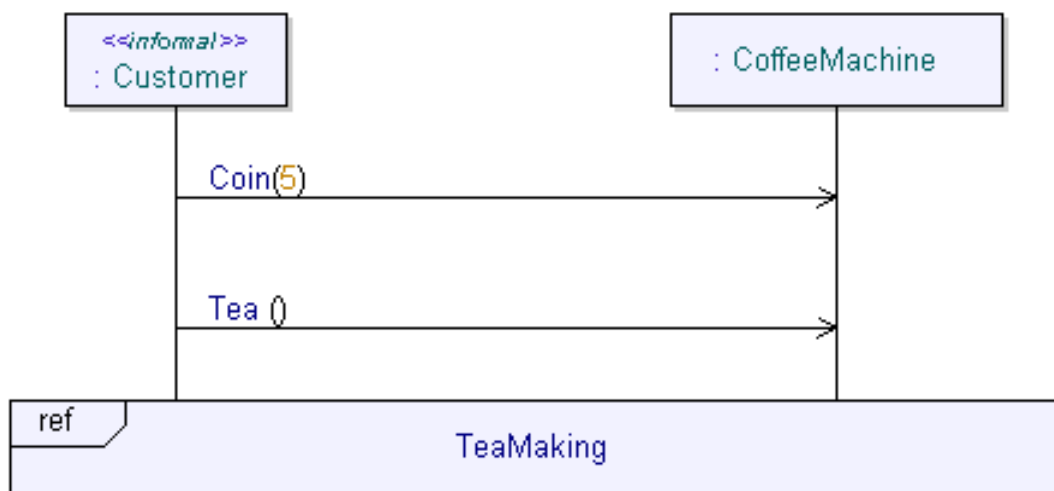

Figure 12: Sequence diagram with reference
4. Place a **reference** symbol below the signals. Name the reference symbol **TeaMaking**. See Figure 12 on page 22.